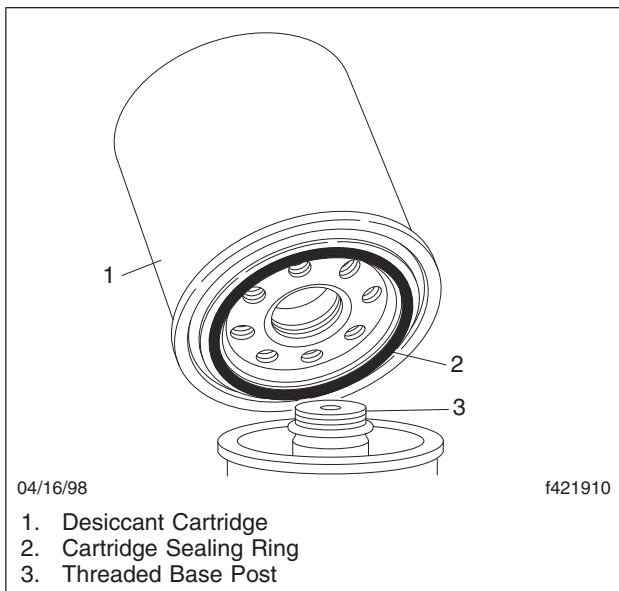

Fig. 3, Desiccant Cartridge Replacement
3. Using a strap wrench or equivalent, loosen the desiccant cartridge. Spin the cartridge off by hand and discard it. See **Fig. 3**.